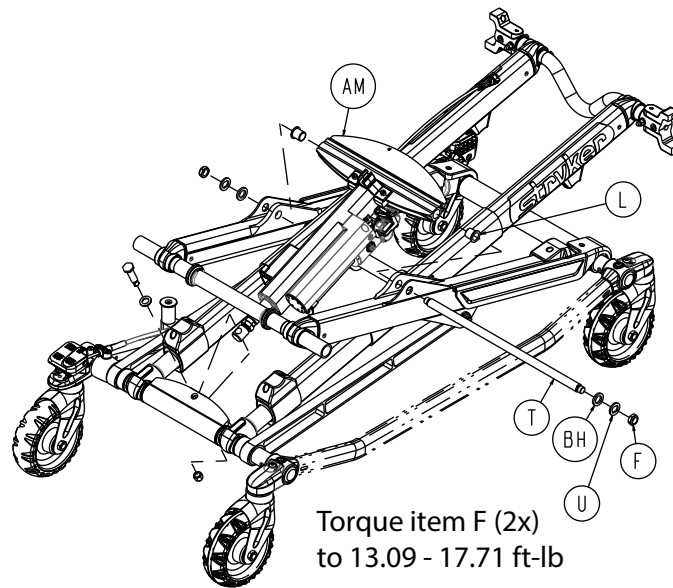

Figure 93 – Lift assembly components
10. Using two 3/4" combination wrenches, remove the Nylock hex nut (F), D washer (U), and washer (BH) (Figure 93). Save all parts.
11. Using a small punch, push the stiffener bar cross tube (T) through the HBC strain gauge external cable assembly (AM) (Figure 93). Remove and save stiffener bar cross tube and flange bearings (L).